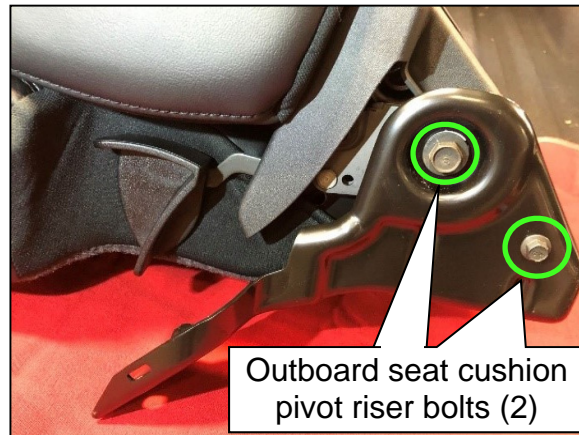

Figure 13
14. Install the rear outboard seat cushion pivot riser using the two (2) existing bolts (Figure 13).